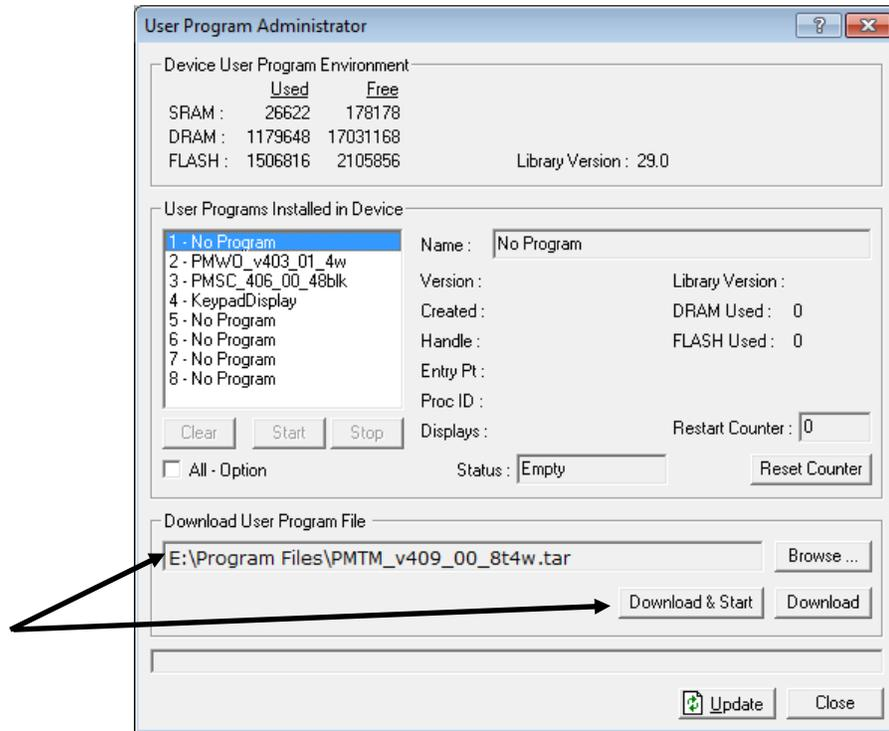

Figure 2-7. User Program Administrator
7. Click **Open** to select the program file. The User Program Administrator screen displays. As shown in Figure 2-7, note that the Download User Program File frame identifies the selected program and that the **Download & Start** button is active: